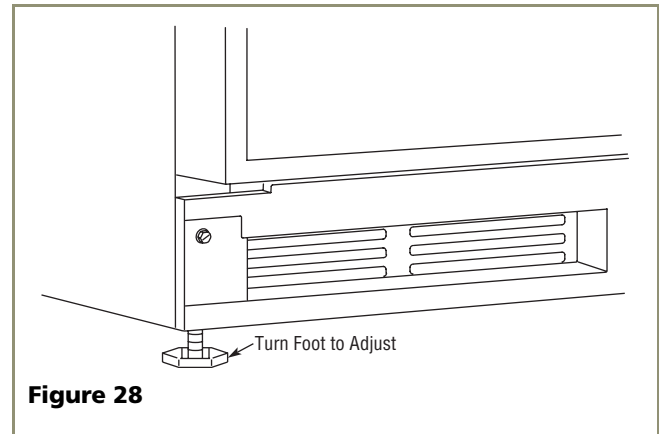

Figure 28
2. If the unit is not level, adjust the feet on the corners of the unit as necessary (see **Figure 28**).